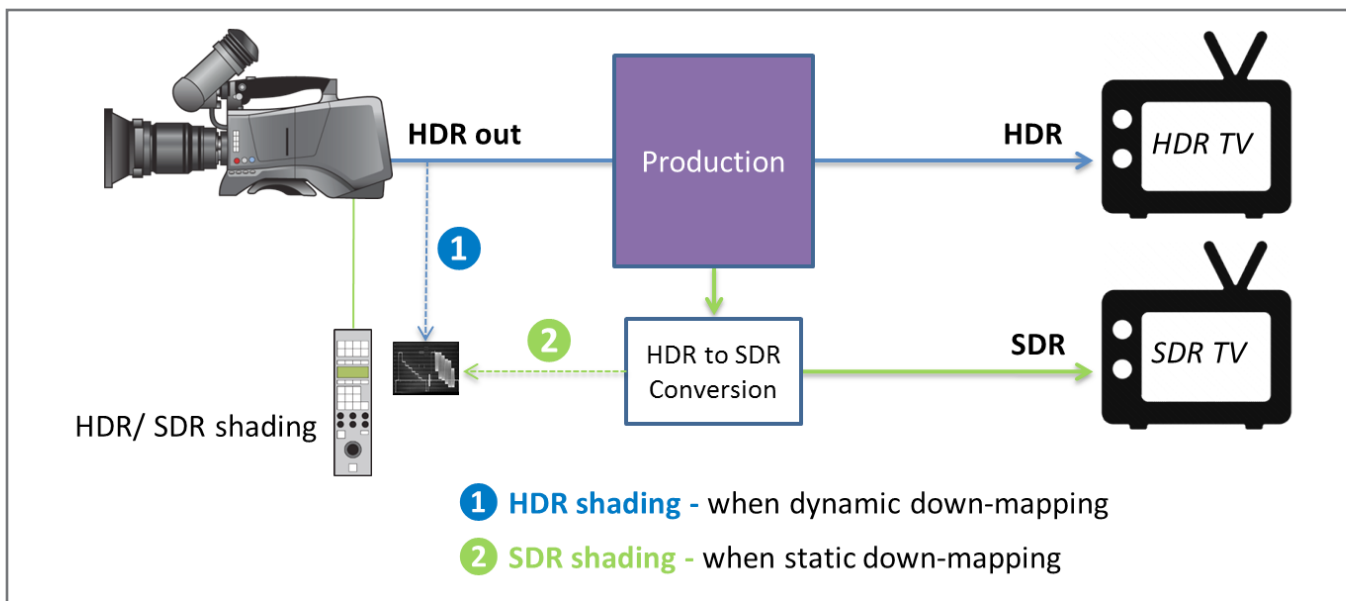

Figure 8 – Optimum camera shading depending on the HDR/SDR downmapper.
- » *Depending on the downmapping, shading needs to be done on HDR or SDR (see Figure 8).*